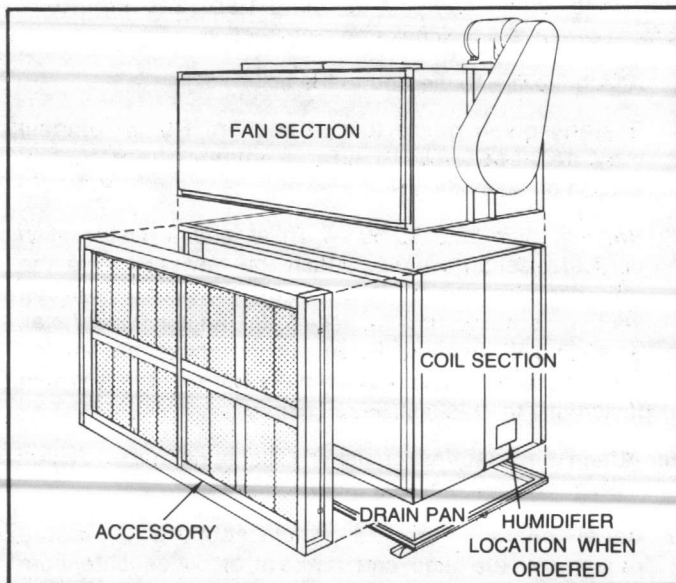

FIGURE 6 - Exploded View of the Vertical Draw-Thru Unit Sizes 35 through 50
5. Vertical Units Size 35-50 — To assemble multi-section vertical discharge units, attach the fan section to the top of coil section. Removal of front panel on coil section is necessary to assemble fan section. Install gasketing if supplied. Drain pan is factory assembled to coil section. Mount assembled unit on isolators and fasten unit to isolators. See Figure 6.